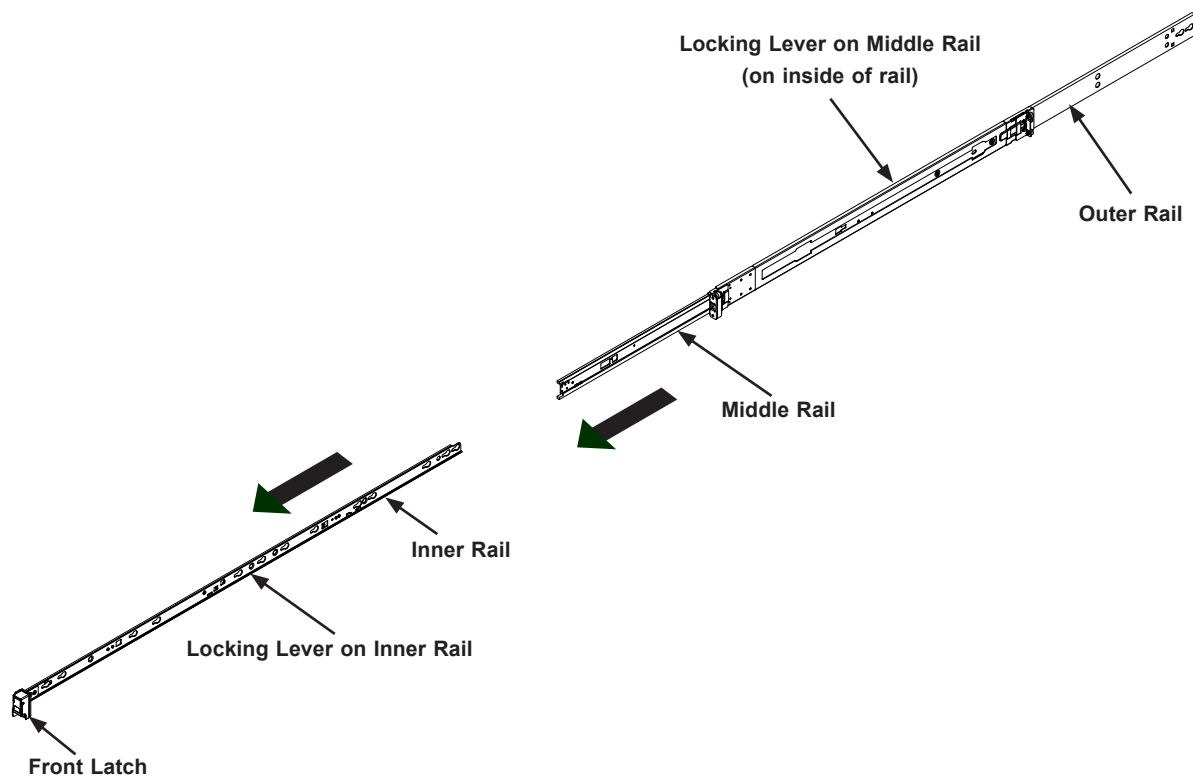

Figure 2-2. Extending the Rails and Releasing the Inner Rail
3. Press down the locking lever on the inside of the inner rail (Figure 2-2) to release the chassis. Continue to pull the chassis out of the middle rails.